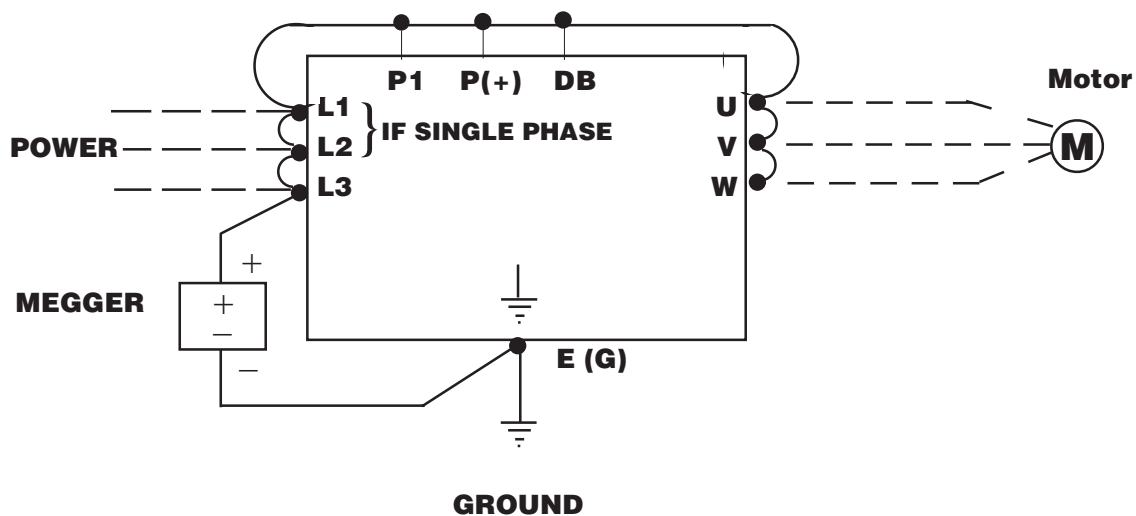

Figure 7-1. MAIN CIRCUIT MEGGER TEST CONNECTIONS
2. Perform the test only on the main circuit as shown in Figure 7-1 when conducting a megger test on the drive itself.